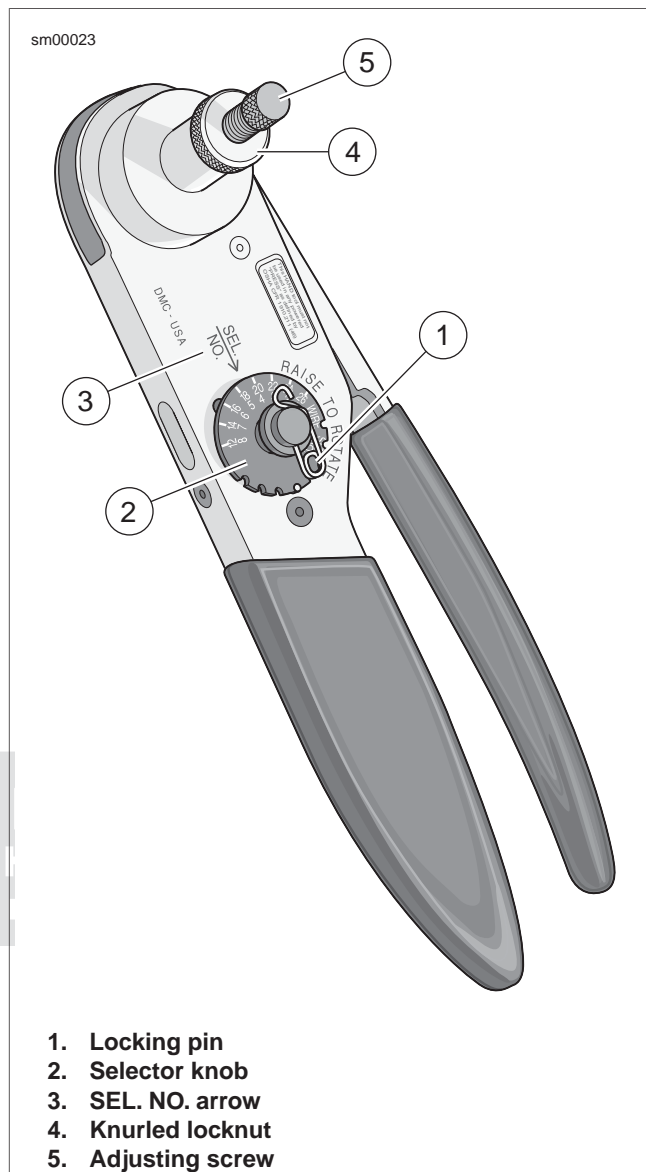

Figure A-19. Electrical Crimper Tool (HD-42879)
1. See Figure A-19. Squeeze the ELECTRICAL CRIMPER TOOL (Part No. HD-42879) handles to cycle the crimp tool to open.
2. Remove locking pin (1) from selector knob (2).
3. Raise selector knob and rotate until selected wire size stamped on wheel is aligned with "SEL. NO." arrow (3).
4. Loosen knurled locknut (4) and turn adjusting screw (5) clockwise (in) until it stops.